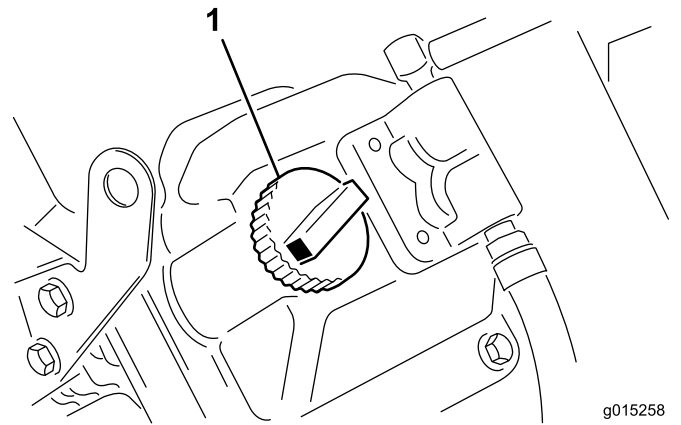

Figure 9
5. If the oil level is below the Full mark, remove the filler tube cap and add oil until the level reaches the Full mark on the dipstick (Figure 9). **Do not** overfill.